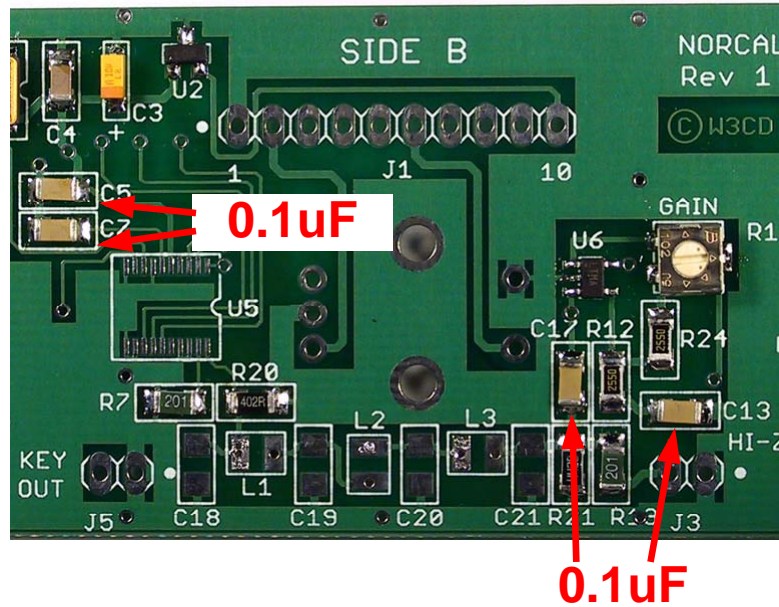

Figure 16. C5, C7, C13, C17 Locations
- Remove the remaining strip of 0.1uF capacitors from the top compartment. The film covering these parts is **CLEAR**. Refer to **Figure 16**. Install them at: